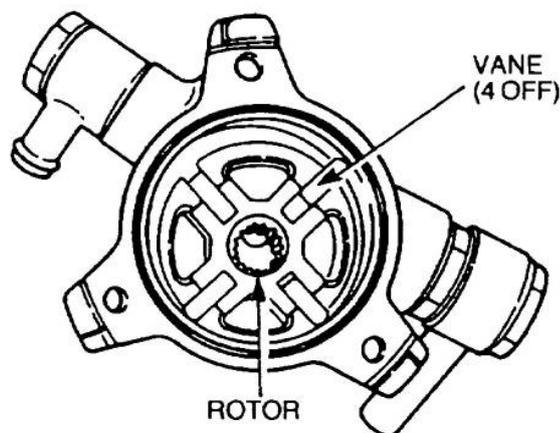

Figure 329 Installation of the Vacuum Pump Rotor and Vanes
- h. Insert the vacuum pump rotor in the housing with the serrated boss uppermost. Fit the vanes in the rotor with the round end towards the housing (Figure 329).